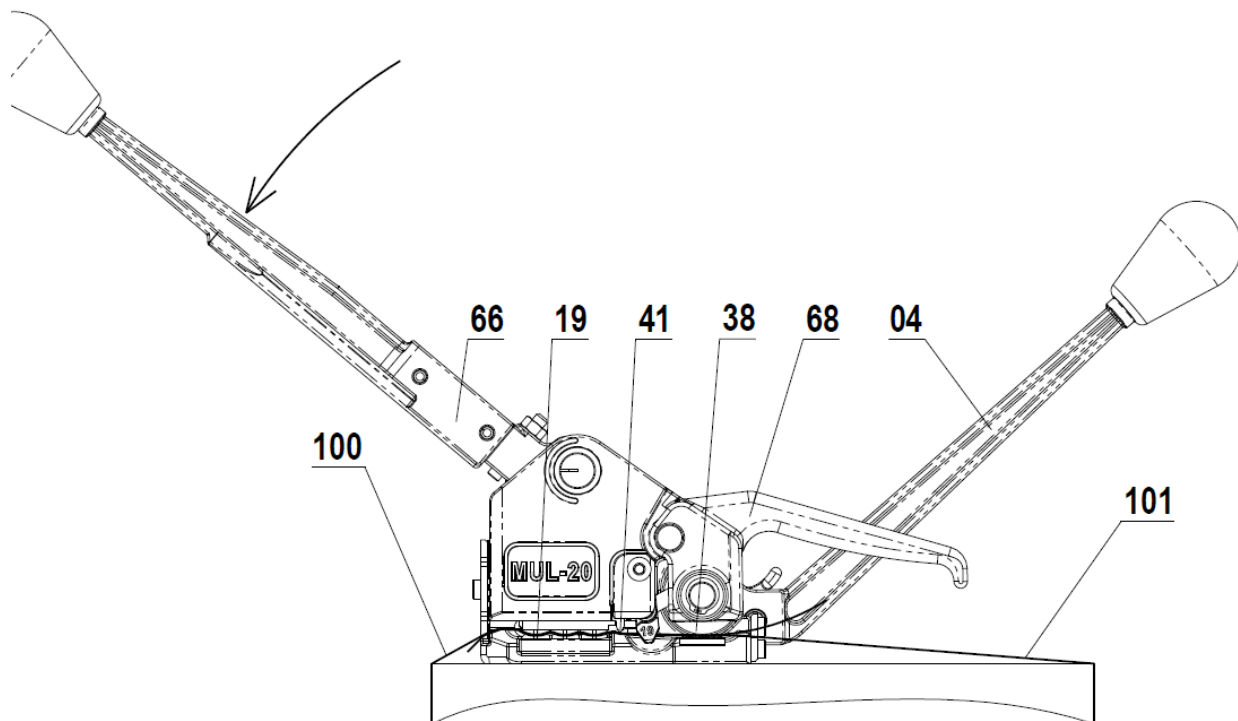

Fig. 4
3. Once satisfactory tension is achieved return **Tension Handle 04** back and push **Sealing Handle 66** forward to seal the joint and cut the excess strap as shown on Fig.4